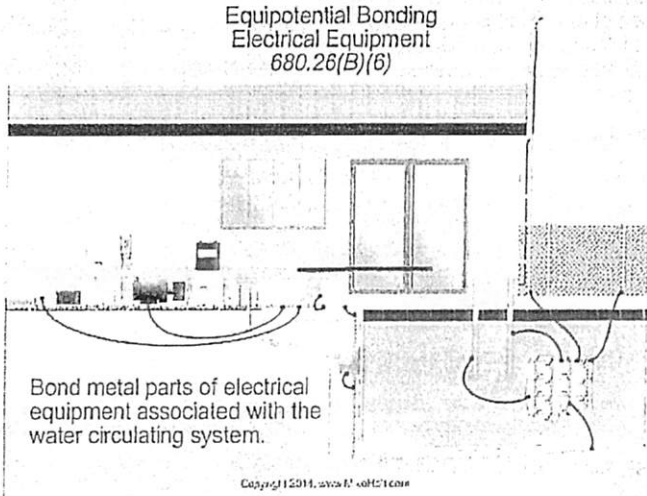

Figure 680-45
(6) **Electrical Equipment.** Metal parts of electrical equipment associated with the pool water circulating system, such as water heaters, pump motors, and metal parts of pool covers must be bonded to the equipotential grid. Figure 680-45